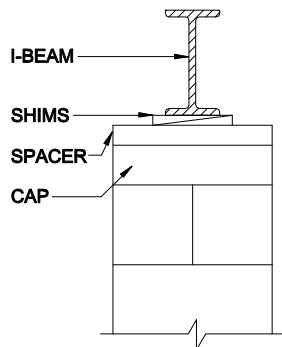

Figure 17. Correct shim placement
4. **Install shims.** Use shims to level the home and fill any gaps between the base of the I-beam and the top of the pier cap. When required, always use shims in pairs (Figure 17). Drive them in tightly so they do not occupy more than one inch of vertical space. When the space to be shimmed is greater than one inch and less than the minimum thickness of available caps or concrete blocks, use hardwood dimensional lumber (two inches maximum thickness) or 4" thick concrete block. For split caps, install shims and dimensional lumber/blocks over each individual cap. Two cap blocks may be used as the cap on double block piers provided the joint between the cap blocks is perpendicular to the joint between the open cell concrete blocks and is also perpendicular to the I-beam supported by the pier.